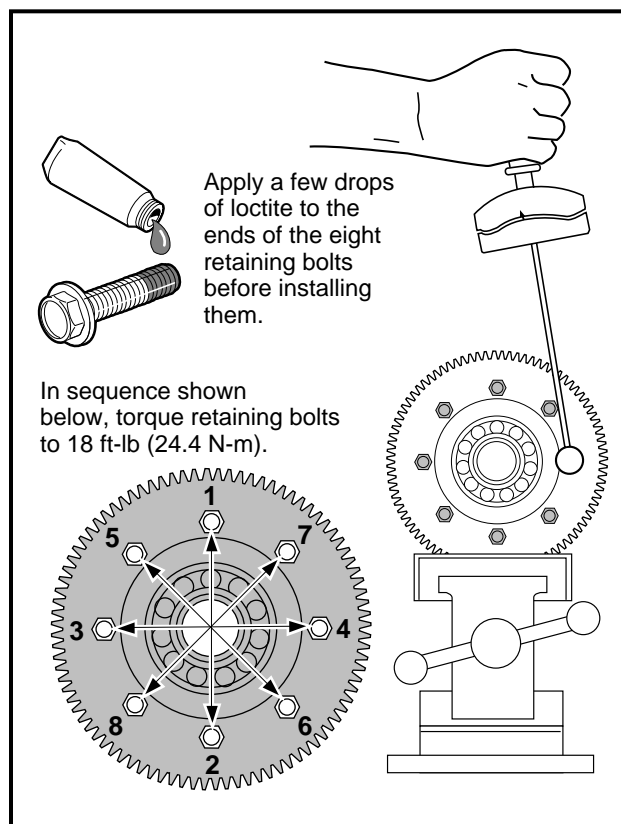

Figure 16-66 Retaining Bolts
7. Apply Loctite 277 on the threads of the eight mounting bolts and install them through the ring gear, carrier case, and into the carrier case cover. Tighten the bolts to 18 ft-lb (24.4 N·m) in the sequence shown (**Figure 16-66, Page 16-27**).